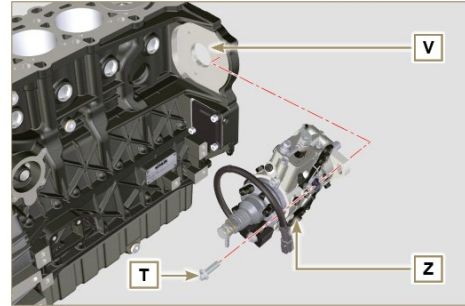

Fig 9.34
- Always change screws **T** with new ones or alternatively apply **Loctite 270 (Fig. 9.34)** to the threads.
7. Fix pump **Z** into housing **V** by means of screws **T** (Fig. 9.34 - tightening torque at **25 Nm**).